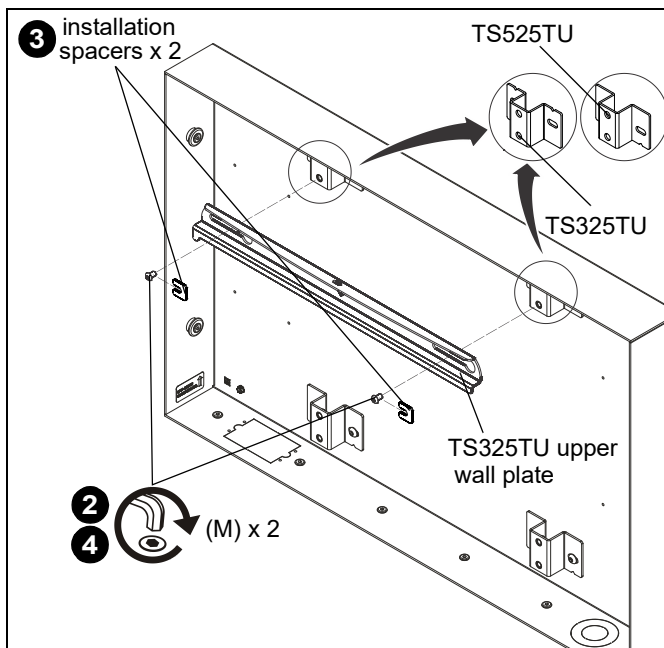
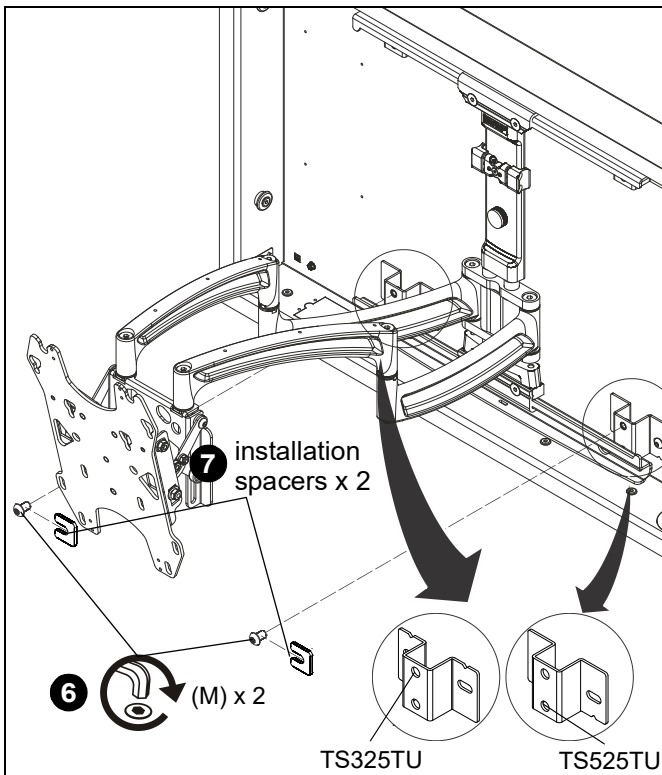
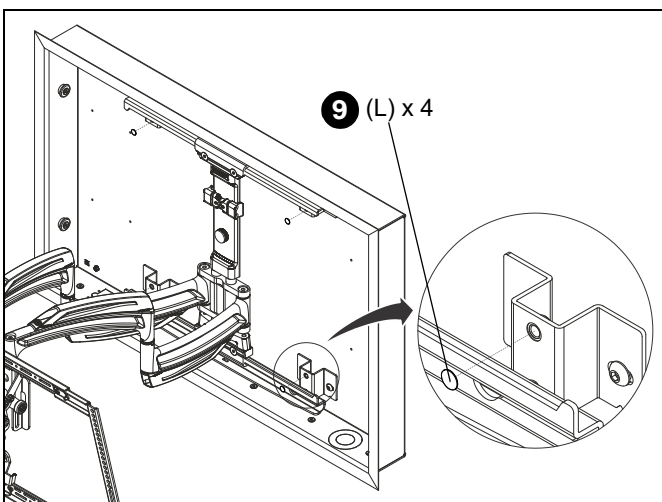

Figure 9
Figure 11
Figure 12
- Use two 5/16-18 x 1/2" button head cap screws (M) to loosely attach upper wall plate of TS325TU/TS525TU to upper attachment brackets (N). (See Figure 9)
IMPORTANT ! : Install to upper bracket holes for TS525TU and lower bracket holes for TS325TU. See Insets on Figure 9.
- Place two installation spacers (included with TS325TU/TS525TU) over two 5/16-18 x 1/2" button head cap screws (M). (See Figure 9)
- Tighten two screws (M) to secure upper wall plate to upper attachment brackets.
- Use two 5/16-18 x 1/2" button head cap screws (M) to loosely attach lower wall plate of TS325TU/TS525TU assembly to lower attachment brackets (N). (See Figure 11)
IMPORTANT ! : Install to lower bracket holes for TS525TU and upper bracket holes for TS325TU. See insets on Figure 11.
- Place two installation spacers (included with TS325TU/TS525TU) over two 5/16-18 x 1/2" button head cap screws (M). (See Figure 11)
- Tighten two screws (M) to secure lower wall plate to lower attachment brackets.
- Install four 9/16" covers (L) into unused holes on attachment brackets. (See Figure 12)